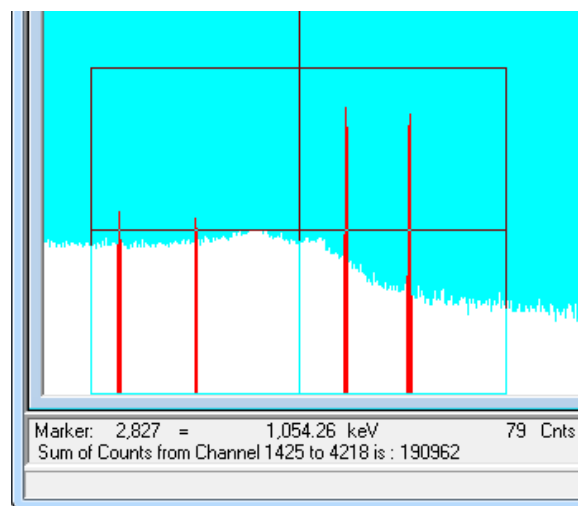

Figure 118. Summing the Channels In a Rubber Rectangle.
- 3) You can also sum a region by marking it with a rubber rectangle, then selecting **Sum**. This is illustrated in Fig. 118.